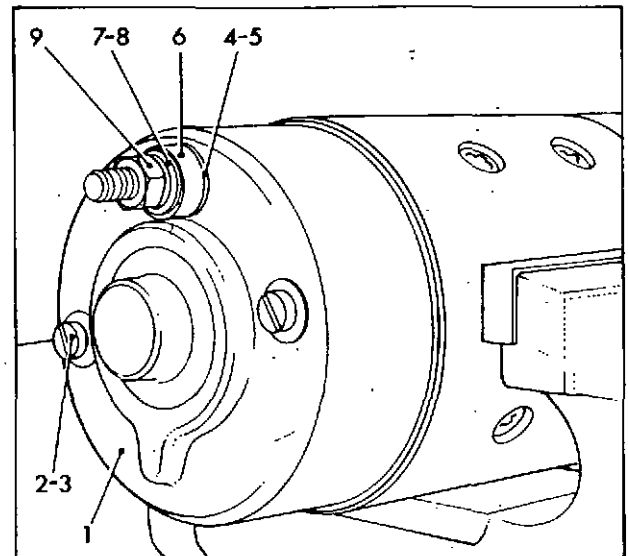

Fig. 28 Replacing commutator end shield cover
Remove both through bolts and fit felt washer (14) and seal (15). Place the commutator end shield cover (1) fig. 28 in position, refit both through bolts (2) with sealing washers (3) and tighten to torque value of 9.5 to 10 lbf.ft (12.9 to 13.6 Nm).